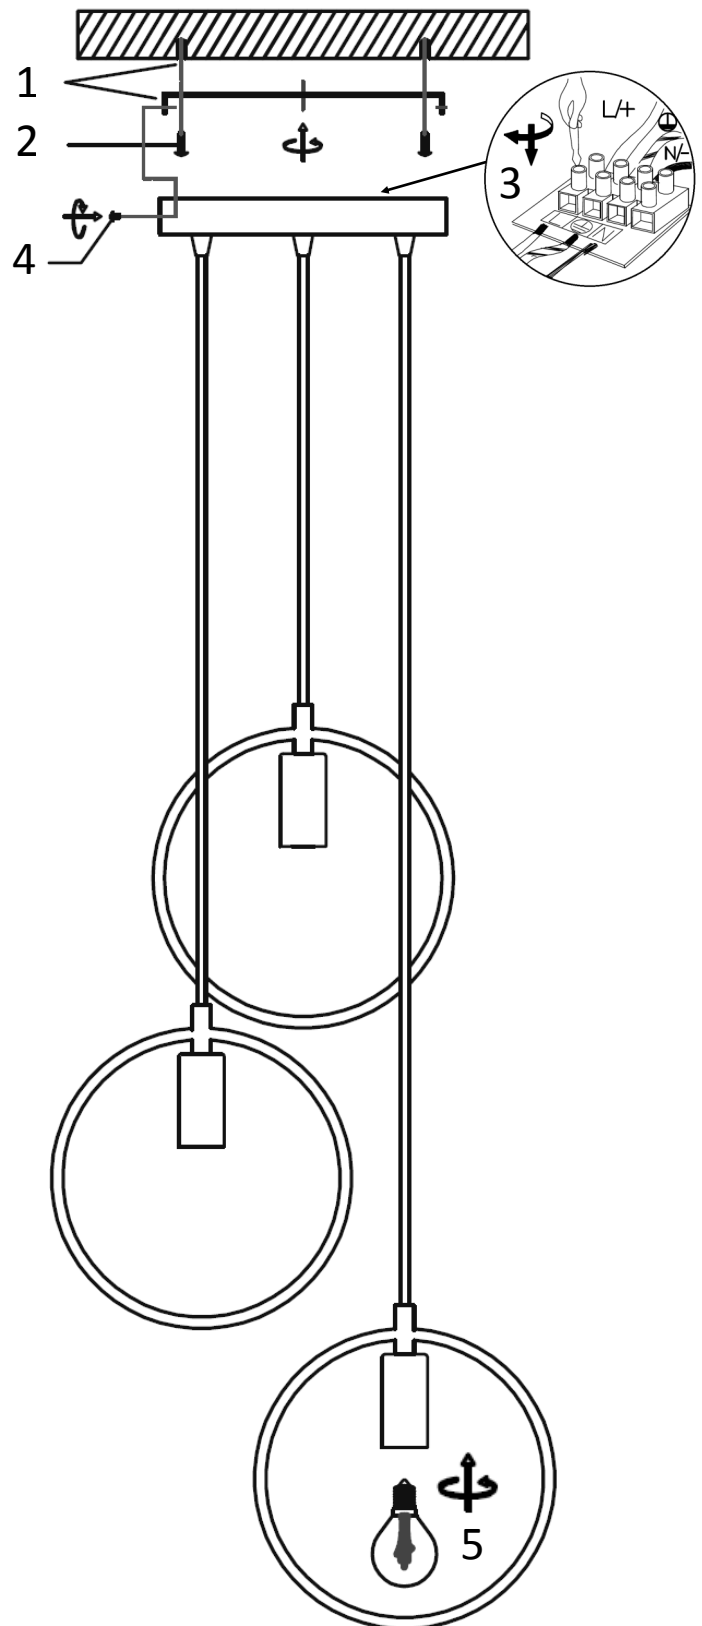

FIG 1
3. Connect the supply wires to the terminal block, opposite the corresponding wires from the fitting see FIG 1. (Ensure that connections are tight and no loose strands of wire are left out of the connector block).